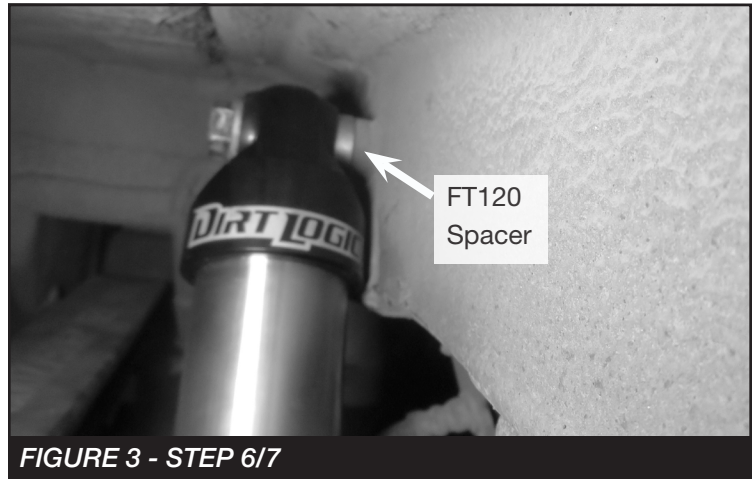

FIGURE 3 - STEP 6/7
6. If installing FTS7231 (Performance Shocks) do so know with the supplied bushings and washers. **NOTE: Install one FT120 on the backside of the upper shock to space it away from the frame.** Torque hardware to 102 ft-lbs. **SEE FIGURE 3**
7. If installing FTS81163 (Dirt Logic Shocks) do so know with the supplied bushings and washers. **NOTE: Install one FT120 on the backside of the upper shock to space it away from the frame.** Torque hardware to 102 ft-lbs. **SEE FIGURE 3**